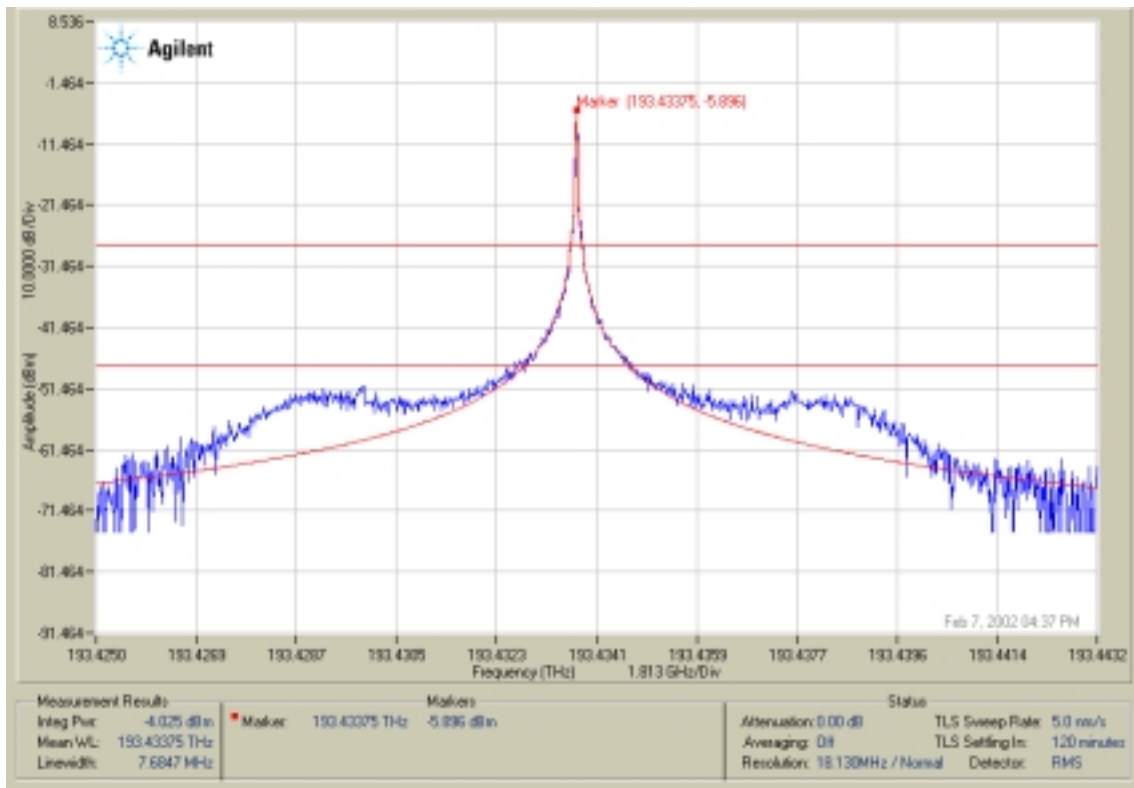

Figure 3-6. Position lower marker where trace matches lorentzian curve
- 3** Click and drag the lower limit linewidth marker to an amplitude above the point where the Lorentzian curve and trace align. Refer to Figure 3-6.